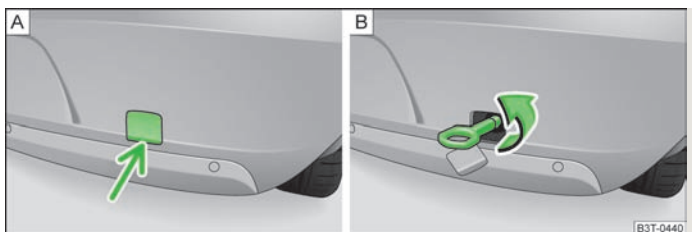

Fig. 185 Rear bumper: Removing the cap/installing the towing eye
- Press onto the bottom part of the cap in the rear bumper » Fig. 185 - [A] and remove it.
- Screw in the towing eye by turning to the left up to the stop » Fig. 185 - [B] and tighten as much as possible. For tightening purposes, we recommend, for example, using the wheel wrench, towing eye from another vehicle or a similar object that can be pushed through the eye.